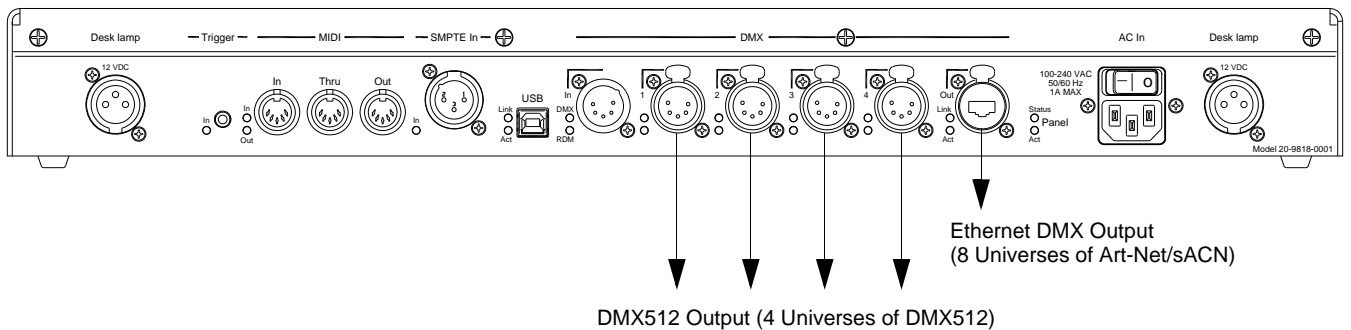

Figure 8: Connecting V276 to System
Step 7. Connect console to system using Ethernet and DMX ports (Figure 8).